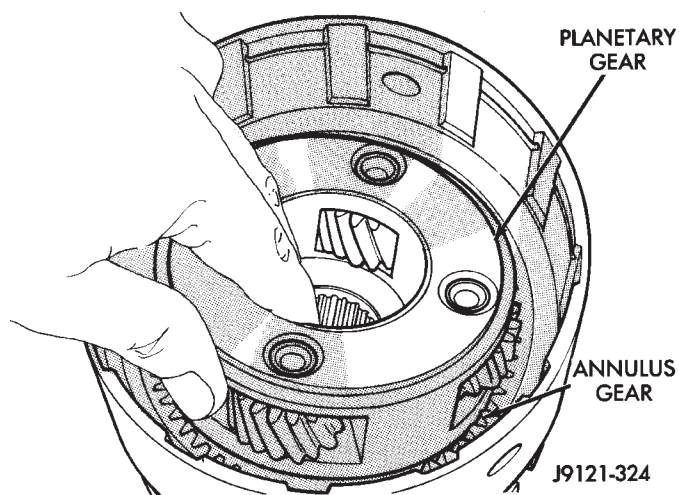

Fig. 226 Planetary Gear Installation
(11) Install planetary gear in annulus gear (Fig. 226). **Be sure planetary pinions are fully seated in annulus gear before proceeding.**
(12) Coat planetary thrust bearing and bearing contact surface of spring plate with generous amount of petroleum jelly. This will help hold bearing in place during installation.